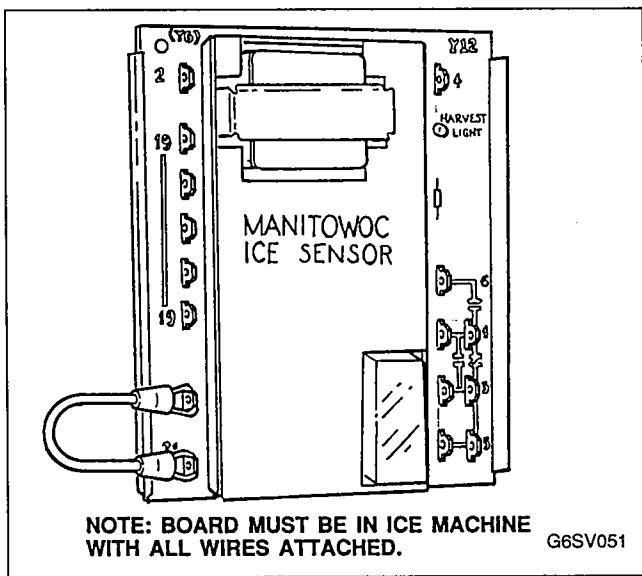

FIGURE 46. UNITIZED SENSOR BOARD
Step 3: Disconnect wires from terminals 20 and 21 on board. Connect jumper wire to terminals 20 and 21, Figure 46.